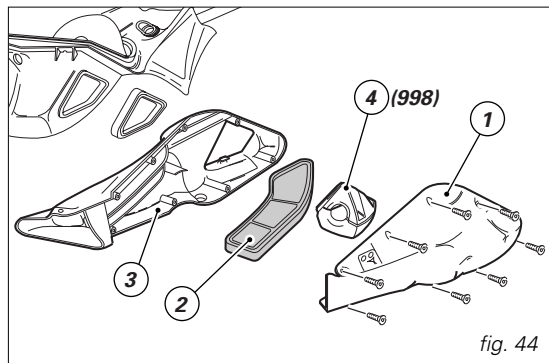

fig. 44
Cleaning and changing air filters (fig. 44)
To make the procedure clearer, complete air box is shown in the exploded view (fig. 44). Remove parts indicated in the following description only.
Remove the filter (2, fig. 44) from its seat on the inner cover (3).